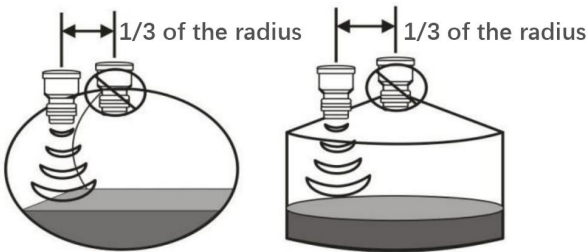

Figure 2
6.1.2 The shape of the vessel needs to be considered when installing the probe. If the probe is not installed correctly, a certain shape of the vessel will produce secondary echoes. This type of problem is mainly concentrated in the conical shape as well as the top of the spherical tank. This particular shape can refocus and amplify the emitted echoes to produce false readings. Choosing the correct mounting position can solve this problem. Please see Figure 2.